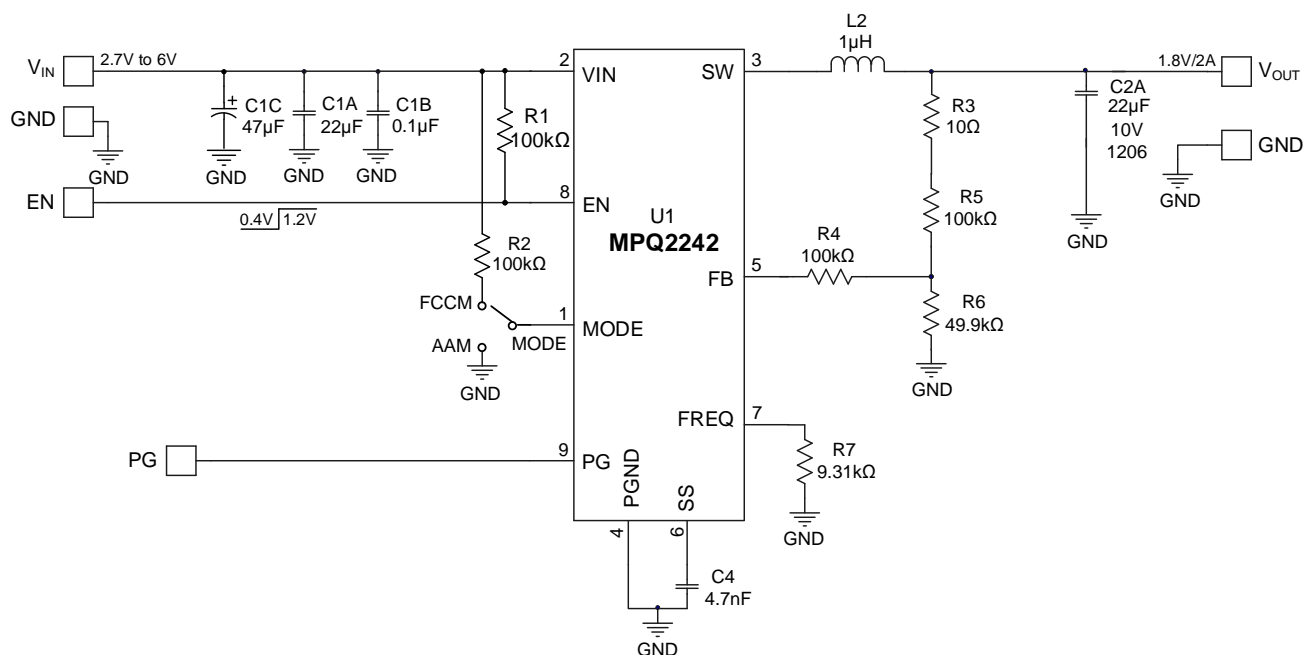

Figure 5: Typical Application Circuit ($V_{OUT} = 1.8V$, $I_{OUT} = 2A$)
- 10) The recommended PCB layout is based on the circuit in Figure 5 on page 25.